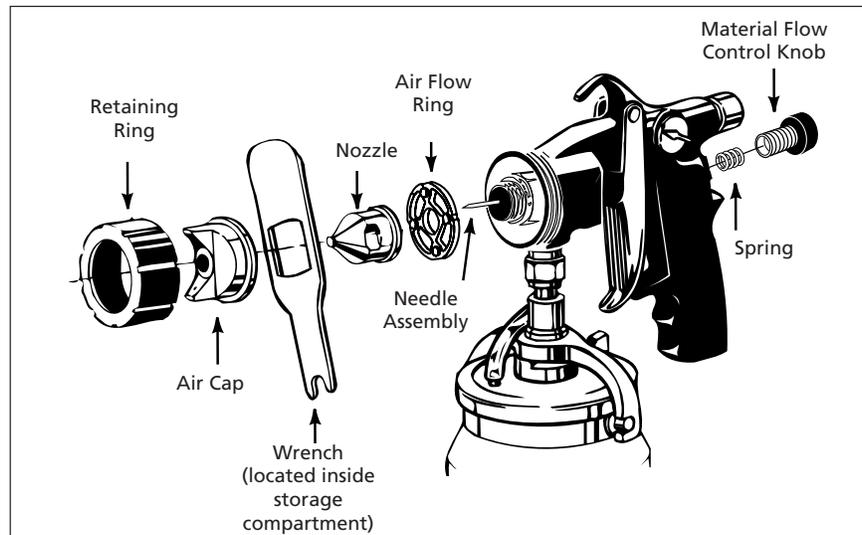

Figure 5 - Needle/Nozzle Installation
- Remove the retaining ring, air cap, nozzle, material control knob, spring, and needle assembly (Fig. 5).